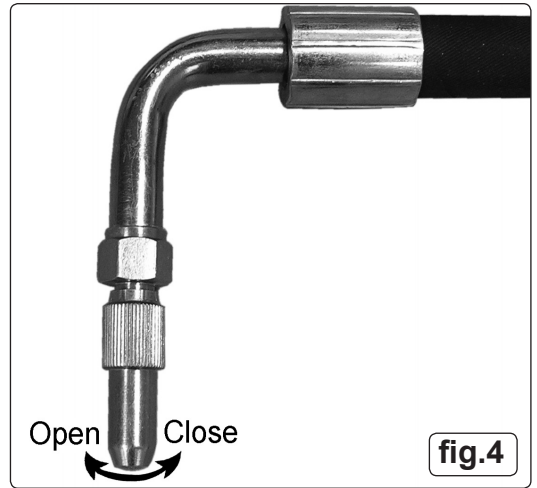

fig.4
- 5.4.2. With the nozzle pointing into the receiving container, open the nozzle valve as shown in fig.4.